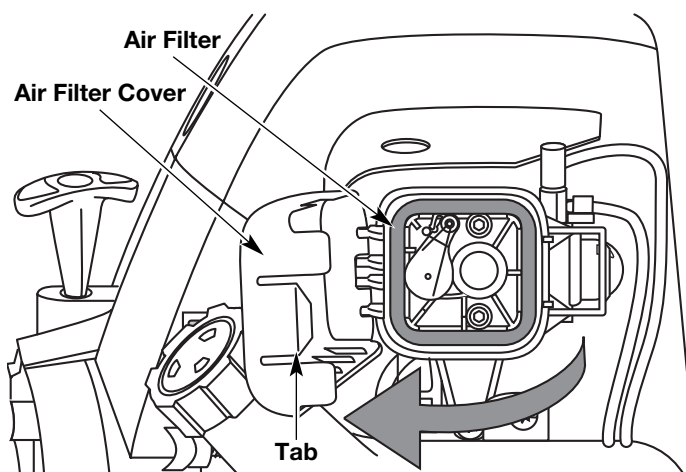

Fig. 56
1. Open the air filter cover. Push the tab on the right side of the cover inward. Then pull the air filter cover out and to the left (Fig. 56).
2. Remove the air filter (Fig. 56).